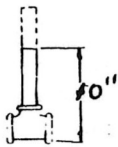

FIG. 7
- (4) ACC THE LONG BREAK LEVER TO THE BRAKE CYLINDER.
- (5) PIPING
- (A) LOCATE THE PIPE WITH THE "T" AND CUT THE BRANCH AS SHOWN IN FIG. 7. CEMENT THE PIPE WITH AN OPEN ELBOW TO THE BRANCH, SEE FIG. 8. WITH A SHARP KNIFE BLADE SPLIT THE BACK OF THE TEE SO THAT IT WILL SLIP OVER THE TRAIN-LINE.